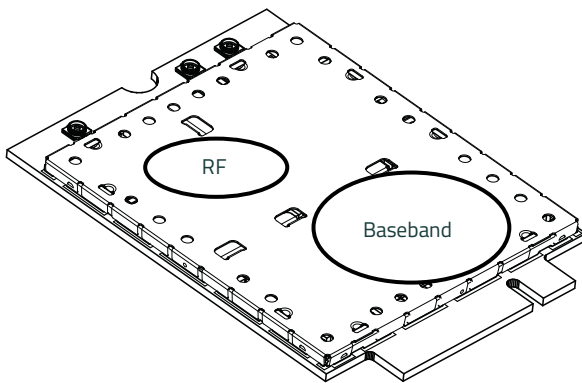

Figure 6-1: Shield Locations (Top View)
- Monitor temperature at all shield locations. Attach thermocouples to the areas indicated in Figure 6-1 on page 51 (RF, Baseband).